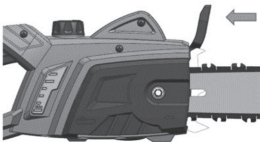

Fig. 1A
The chain brake is disengaged (chain can move) when the brake is pulled back and locked. This is the normal running position (Fig.1A).
- A. Make sure the chain brake is disengaged (Fig. 1A).